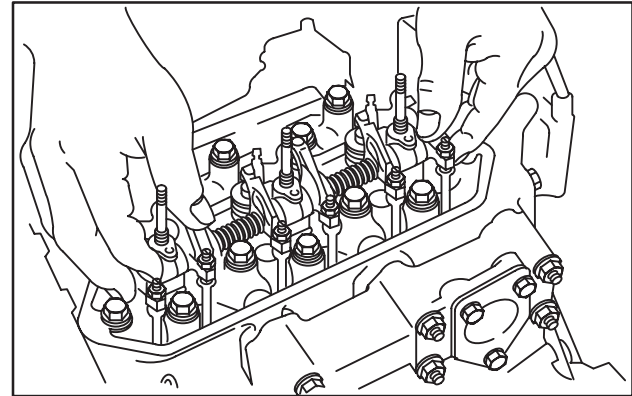

Fig. 31 – Install Rocker Arm Assembly
4. Install valve stem caps on valve stems. Install rocker arm assembly, Fig. 31. Install washers and torque nuts to 19.0 Nm (170 in. lbs.).